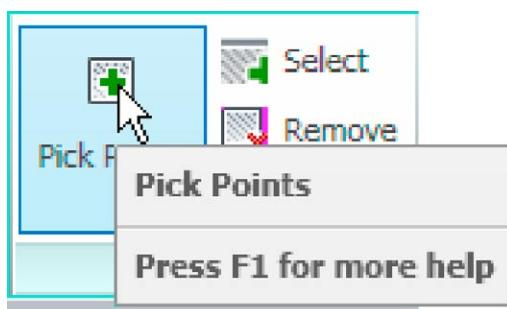

Fig. 8.8 Left-click **Pick Points** in the **Hatch Creation/Boundaries** panel
4. *Left-click Pick Points in the Hatch Creation/Boundaries panel and pick inside the areas to be hatched (Fig. 8.8).*